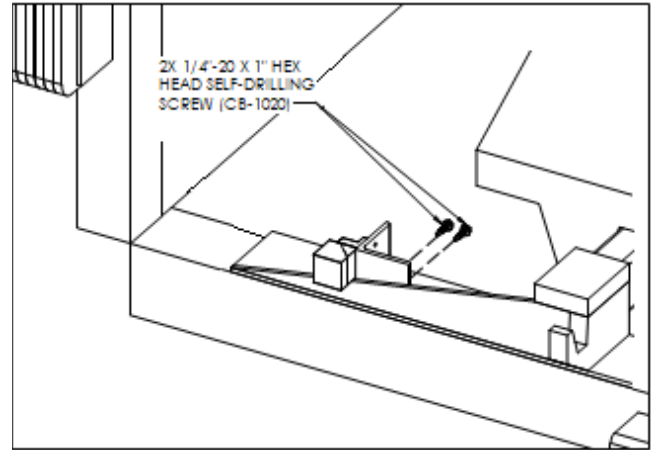

FIGURE 11—FASTEN BRACKET TO SUB-FRAME
5. Fasten Proximity Sensor Bracket Assembly, with two 1/4"-20 X 1" hex head self-drilling screws, to the sub-frame as shown in Figure 11 on page 25. (If bracket assembly cannot be fastened to sub-frame, remove sensor from bracket before welding bracket to pit metal).
5. Fasten Proximity Sensor Bracket Assembly, with two 1/4"-20 X 1" hex head self-drilling screws, to the sub-frame as shown in Figure 11 on page 25. (If bracket assembly cannot be fastened to the sub-frame, remove sensor from bracket before welding bracket to pit metal).